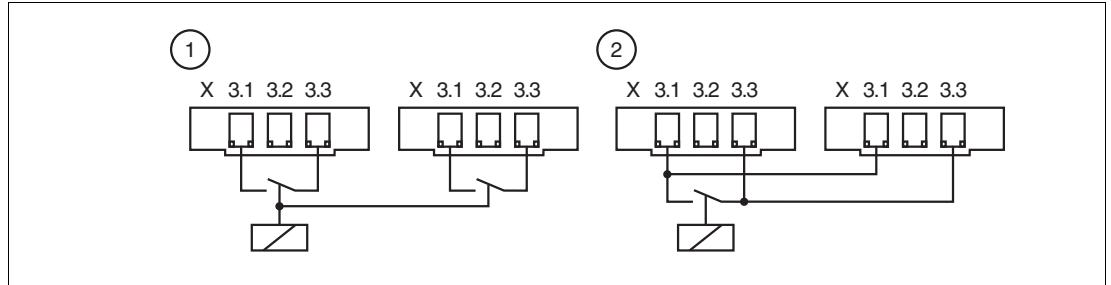

Figure 4.3 Connector X3
- X3.1 to X3.3 for external volt-free contact (contact galvanically isolated from other contacts on other backplanes, see Figure 4.3, position (1)).